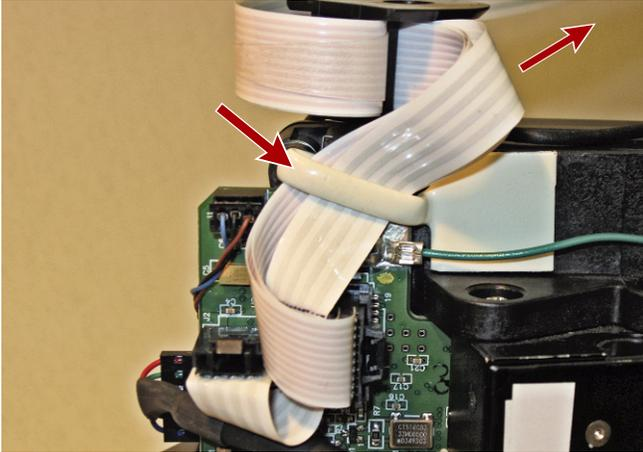

Figure 13. Connecting the Cable to the Shuttle PWA
4. Bend the **clamp** around both cables (Figure 13 on page 4):